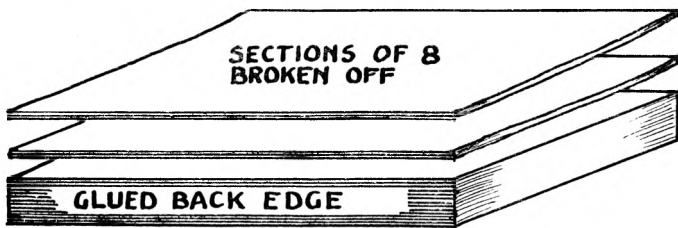

Fig. 116
2. Break off the sheets, in groups of about 8, from the glued pile. These will now form the sections of the book, fig. 116.